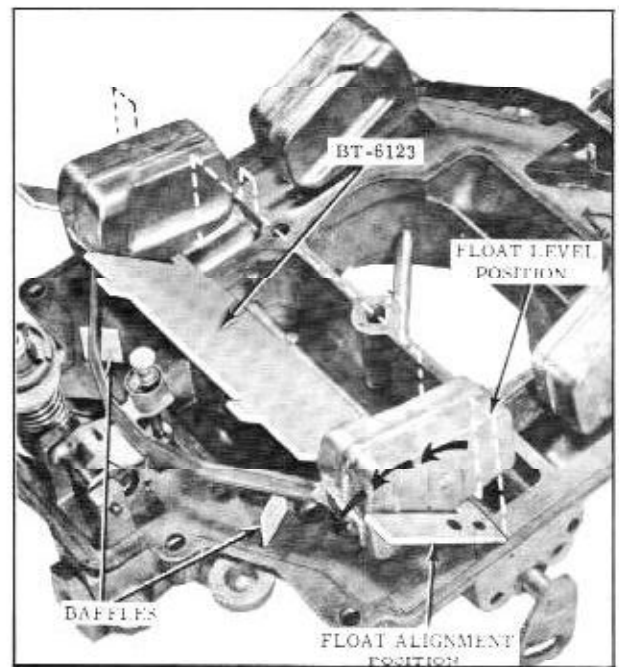

Fig. 8-106 Checking Primary Float Level and Alignment
position gauge BT-6123 under the primary float as shown in Fig. 8-106.
4. To check float alignment rotate gauge as indicated in Fig. 8-106. Float pontoon should be centered in the gauge cutout.